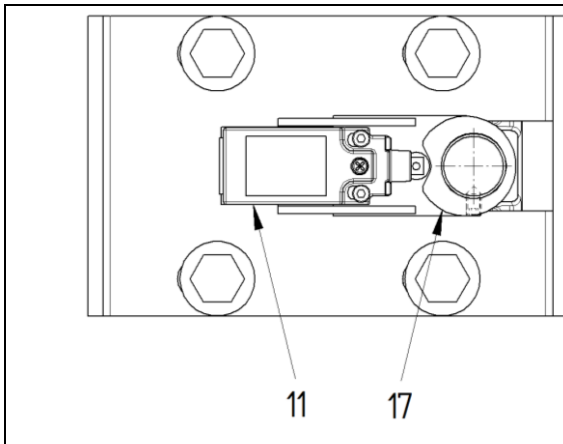

Figure 14: Safety switch (item 11) not actuated
gear (item 12) can be identified using the safety switches (figures 14 and 20, item 11, monitoring contact S2.2).
The safety switch (figure 14, item 11) on the electrically-triggered safety gear is actuated when reaching the brake end position at the latest (direct opening contact interrupts the safety circuit) and the monitoring contact (second contact in the safety switch (figures 14 and 20, item 11, monitoring contact S2.2)) switches.
If, as described above, an engaged safety gear (item 12) is determined by status monitoring (section 2.5), the status (engaged or not engaged) of the safety gear (item 12) can be identified using the safety switches (figures 14 and 20, item 11, monitoring contact S2.2), the safety gear (item 12) must also be pulled out of the catch (electrical lift return control, safety switch (item 11) bypass for the
gear head (item 12) is permitted to touch these side attachments (e.g. gusset plates (figure 14 + 15 + 23)).